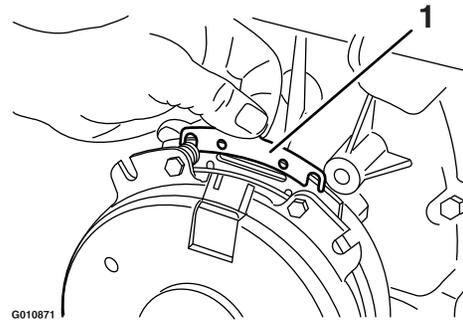

**Figure 78**
- A. Loosen both brake-mounting bolts 1/2 to 1 full turn as shown in Figure 78.